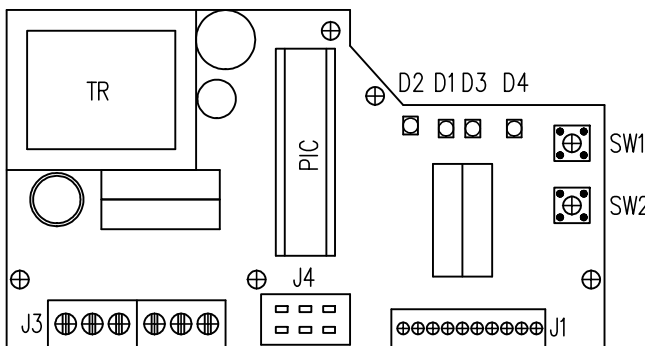

Fig.14
4.9 Adjustment of position controller (Fig. 14)
Laying of adjusters and signaling elements on the board of the REGADA controller is shown on Fig. 14: